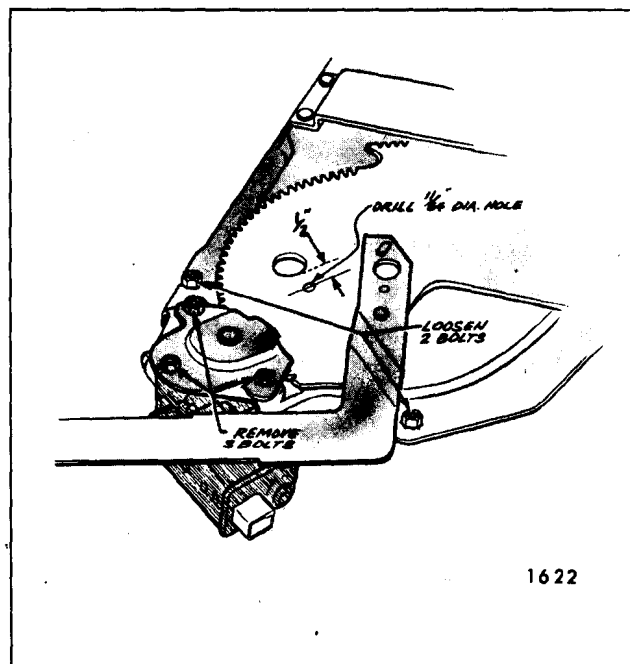

Fig. 9-35-Tail Gate Regulator Motor Assembly
- Drill a 1/8" hole through regulator sector gear and back plate (Fig. 9-35). Do NOT drill hole closer than 1/2" to edge of sector gear or back plate. Install a pan head sheet metal tapping screw (No. 10-12 x 5/8) in drilled hole to lock sector gears in position.